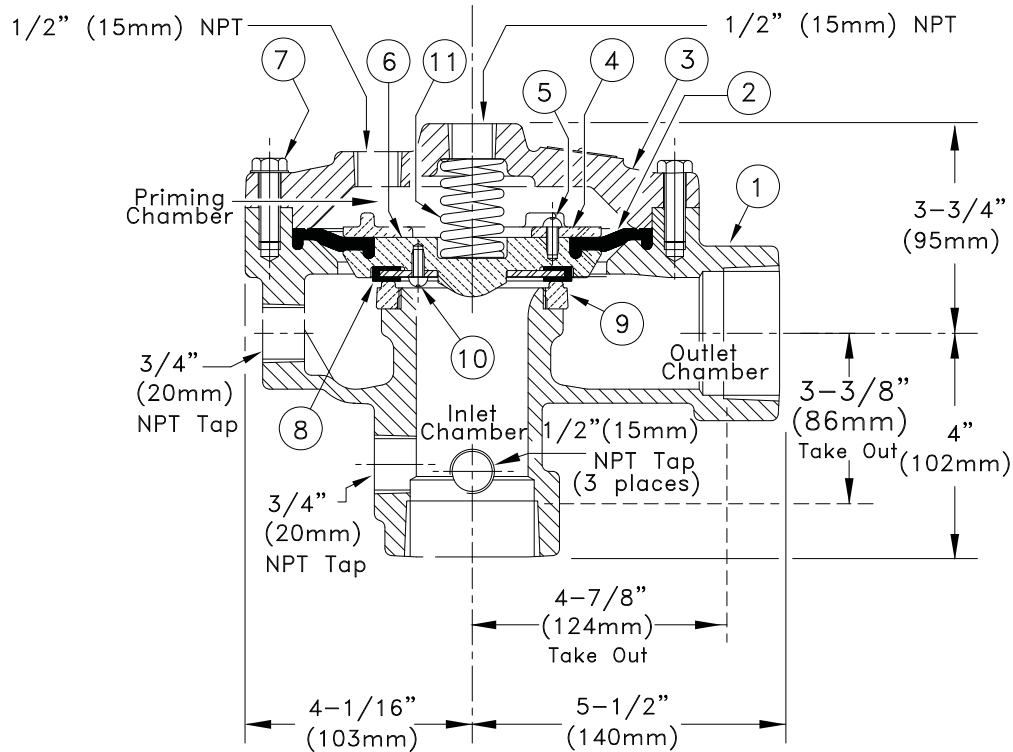

Figure 3 - Replacement Parts
- i. Remove each of the cap screws (7) using a Socket Wrench with a 9/16" socket, and break the seal of the cover.
- ii. Lift the cover (3) off the valve body (1) and gently set it aside and lift the spring (11) from the clapper (6).
5. Installing Replacement Parts and Valve Reassembly (Refer to Figure 3.)
- i. Remove the old clapper assembly (2, 4, 5, 6, 7, 8, and 10) by placing a flat head screwdriver between the body (1) and the diaphragm rubber and then lifting the clapper assembly from valve body (1).
- ii. Inspect the seat (9).